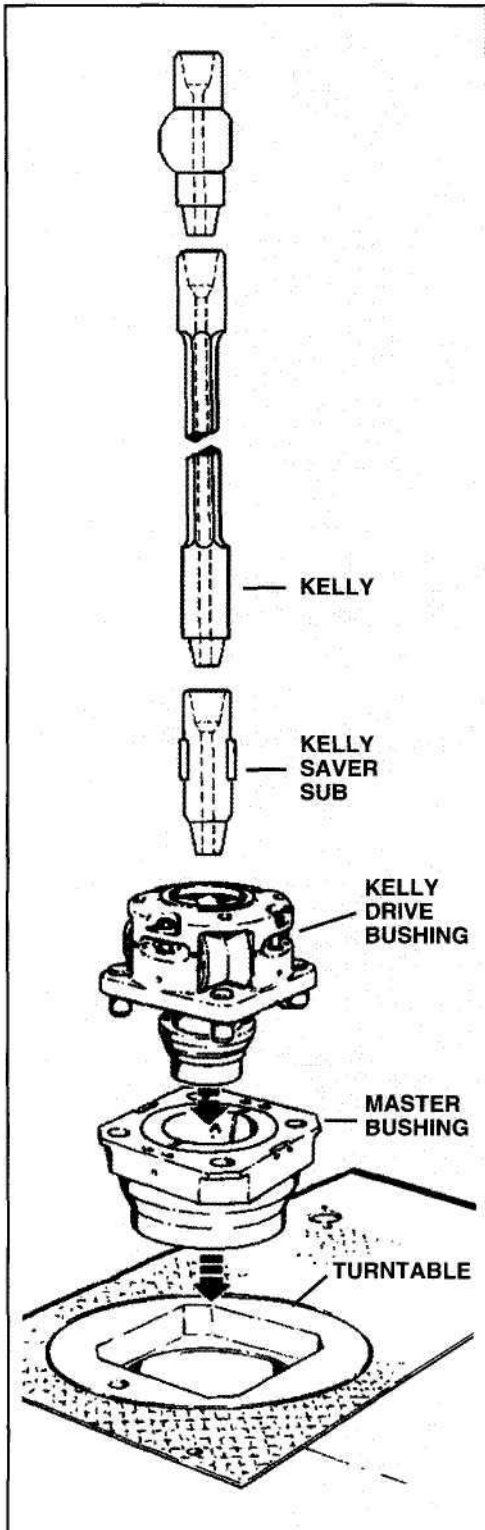

Figure 99. A rotary-table system (swivel not shown)
Today, many contractors, especially those offshore, employ top drives on their rigs. However, many rigs still use the *rotary-table system* to rotate the drill string and bit. A rotary-table system consists of five main parts: (1) a rotary table with a turntable, (2) a master bushing, (3) a kelly drive bushing, (4) a kelly, and (5) a swivel (fig. 99).